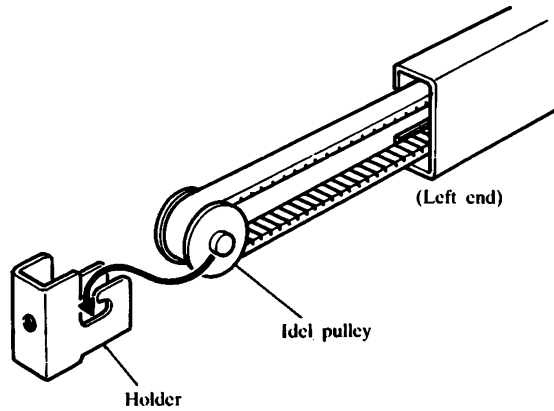

Fig. 82
- (3) Pull the Driving belt from another end. (The Driving pulley and the Holder get into the rail.) Set the Idle pulley and the holder. (Refer to Fig. 82)